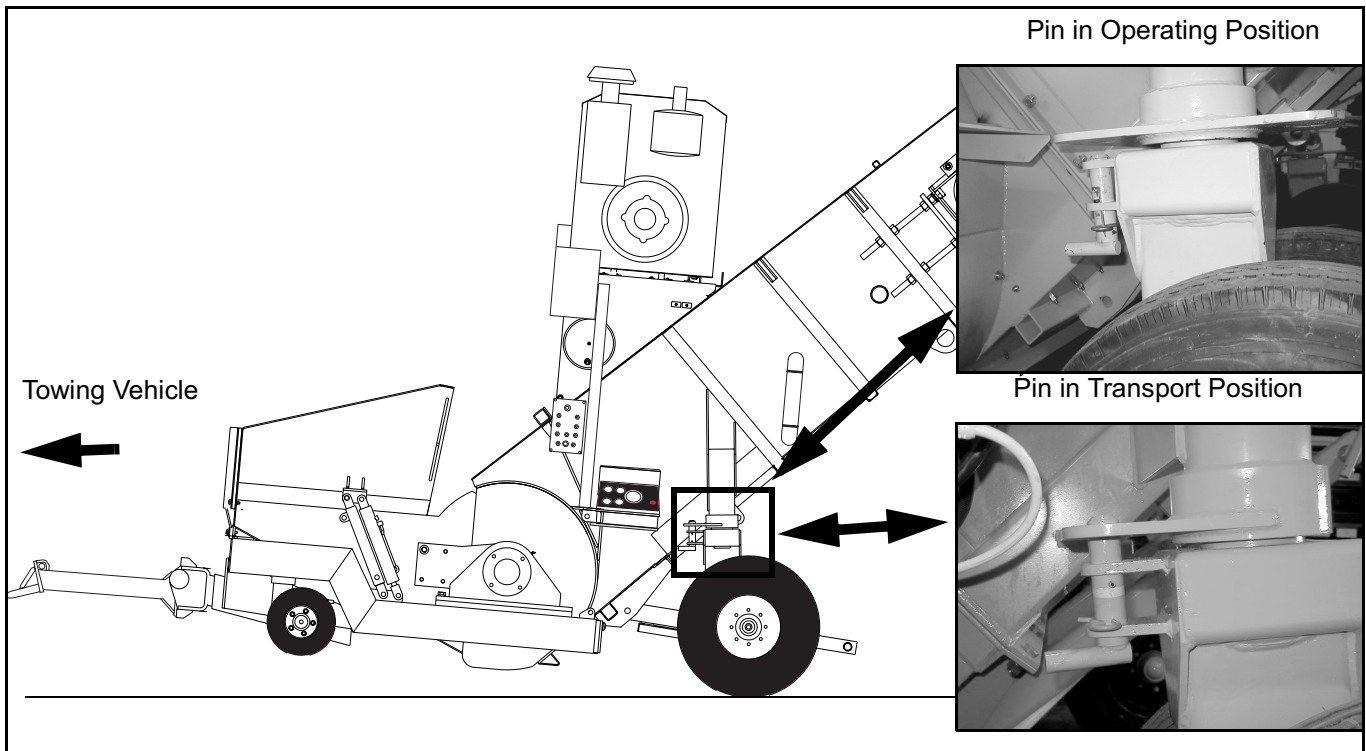

Figure 13 Towing MS-4
- 1) Pin rear pivoting caster wheels in the transport position (Figure 13).
- 11) Remove transport lock pins from rear caster wheels to allow them to pivot (Figure 13).